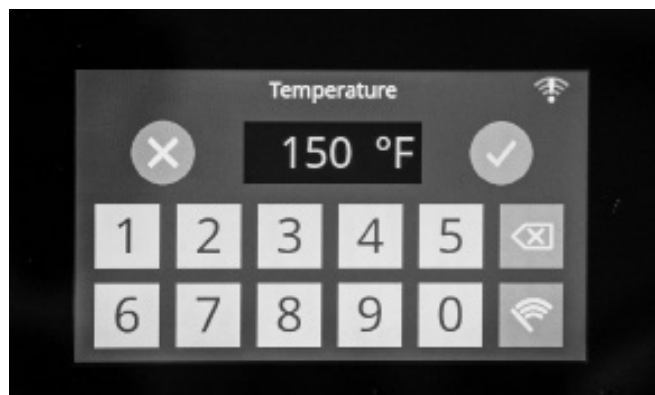
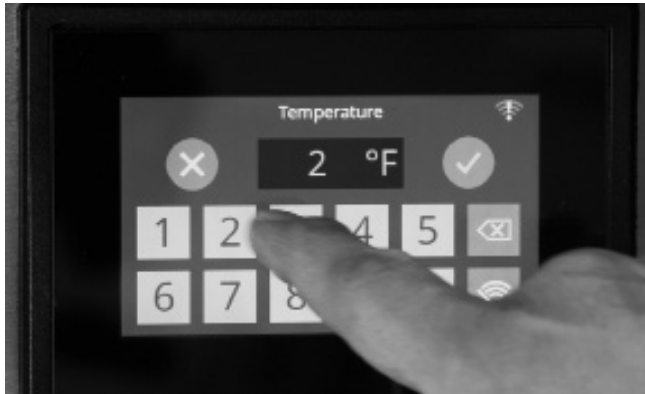

Figure 8
Figure 9
2. Press the temperature button to change temperature. Touch the numbers to correspond to the temperature required. Press 4-5-0 for 450 degrees and then touch the check mark to save the new temperature or X to return to the original setting. (Figure 8 and Figure 9)